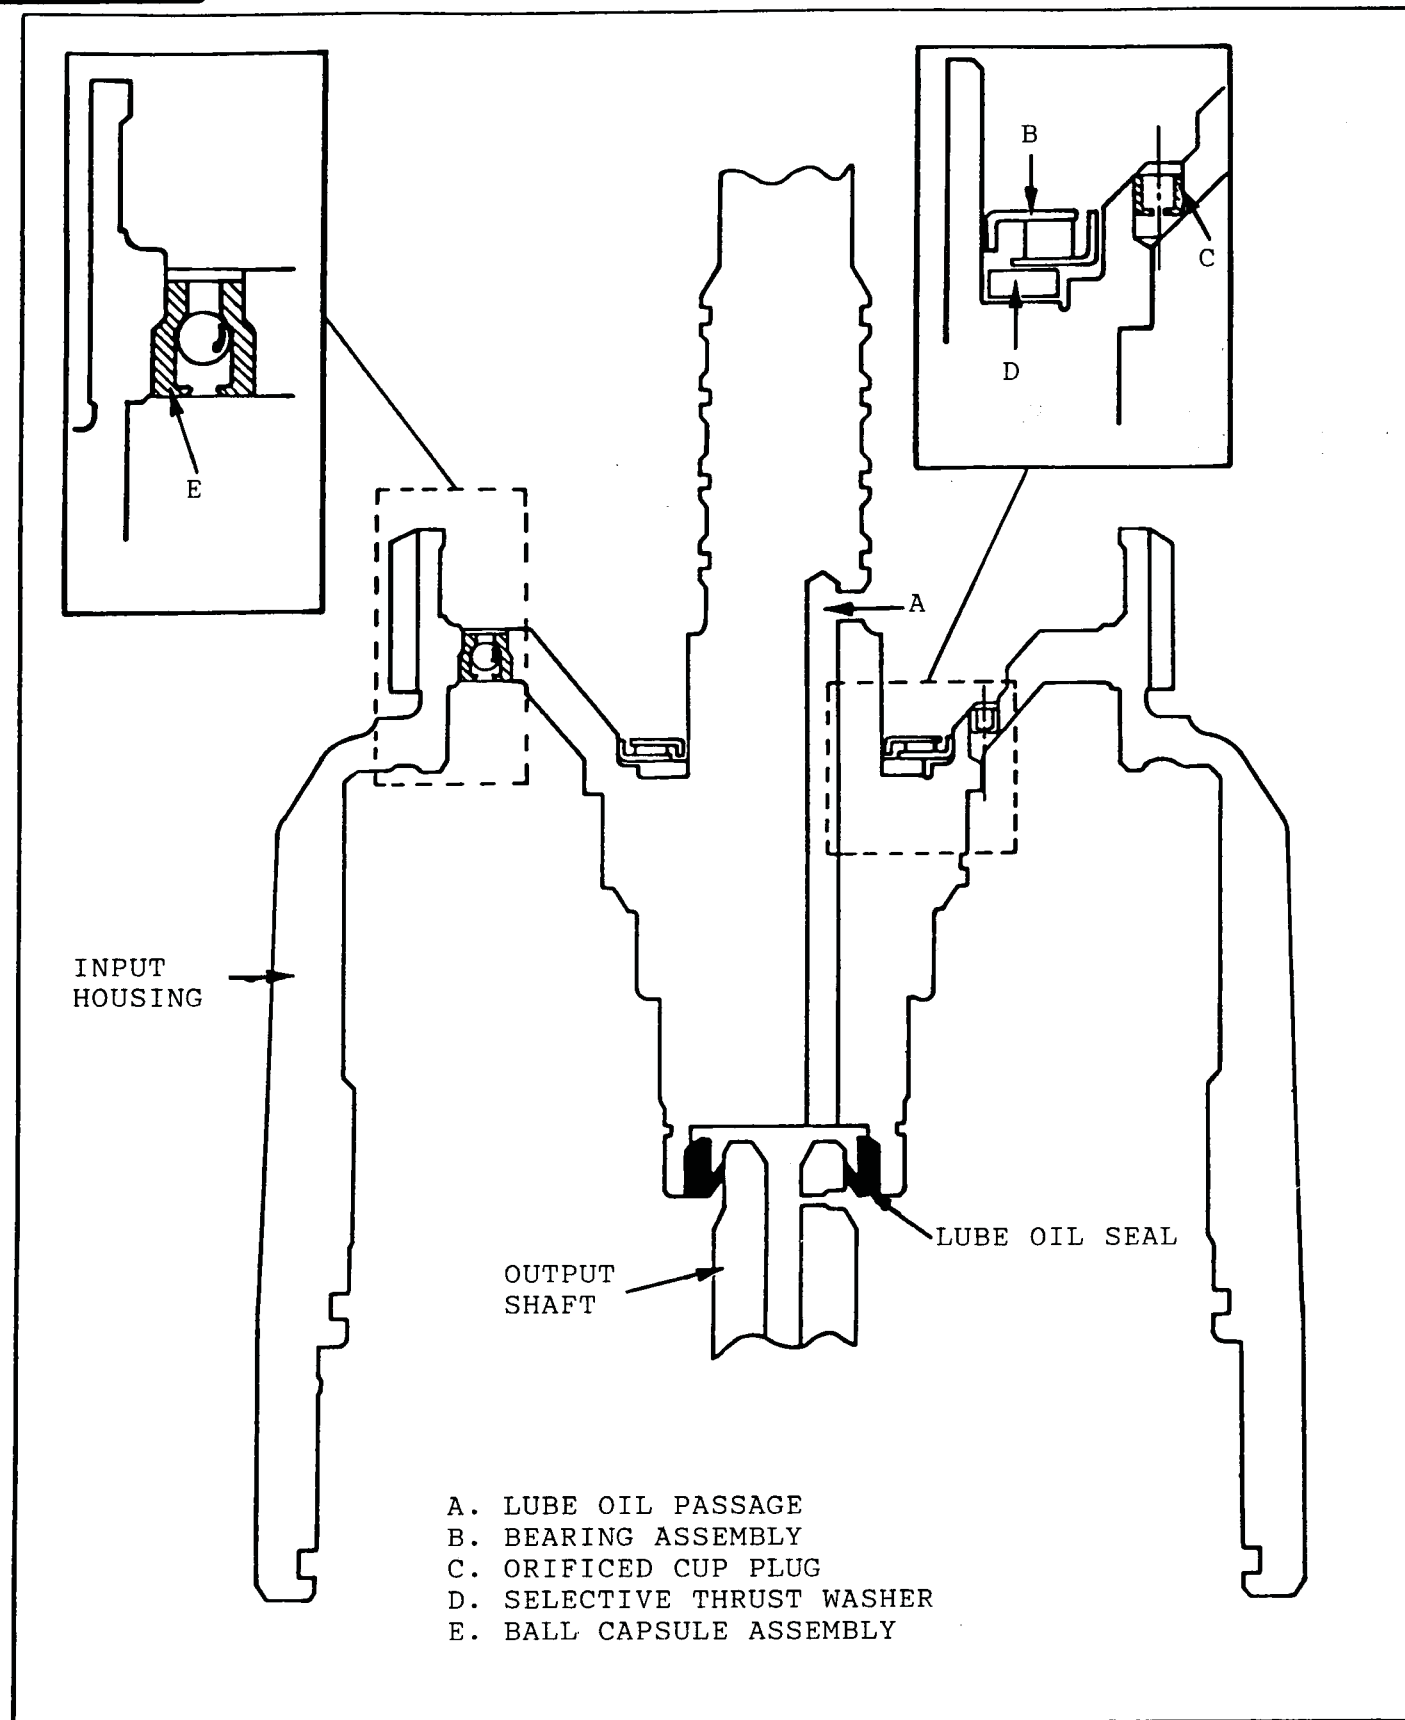

Figure 72
5. Inspect for presence of orificed cup plug (Figure 72).
6. Check for proper operation of ball capsule assembly (Figure 72).